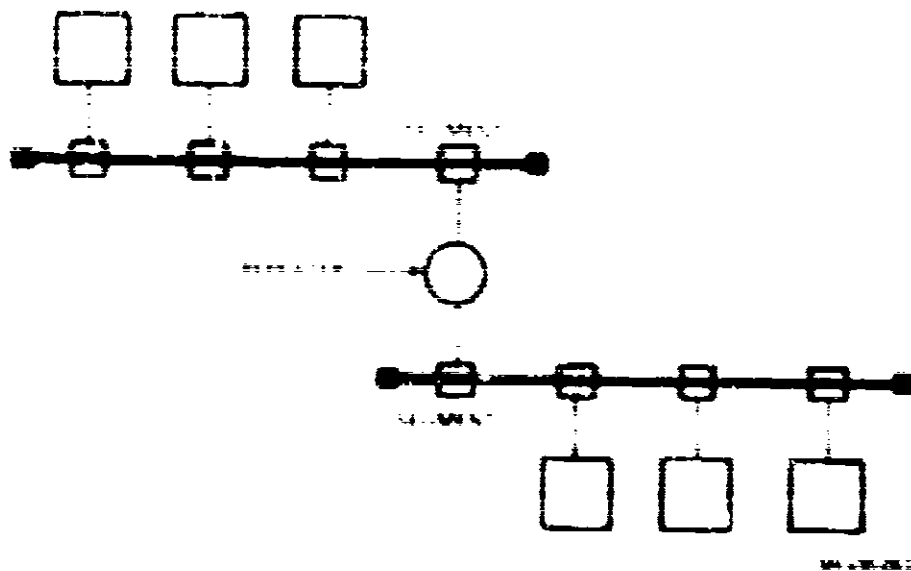

Figure 1-5. Extended Ethernet Configuration
- A repeater may be used to extend the system by connecting two coaxial cable segments (through two transceivers) as shown in Figure 1-5.